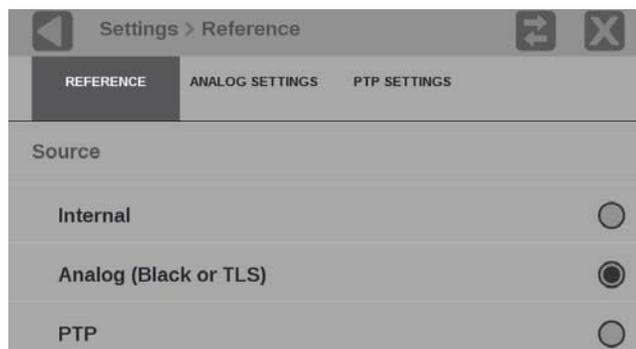

Figure 59: Input Reference options
2. Select the **Reference** menu and select the **Reference** submenu, as shown in Figure 59.